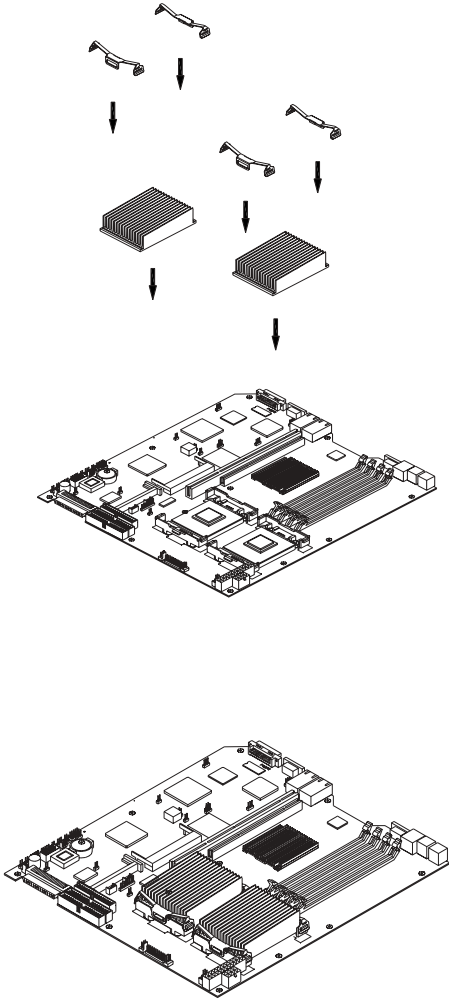

Figure 5-2. Heatsink Installation
5. Secure the heatsink by locking the retention clips into their proper position. When correctly installed, the retention clips should *click* into place and the three black tabs on the CPU retention pieces should protrude fully through the corresponding holes on the retention clips. See Figure 5-2 for a diagram of the heatsink installation procedure.